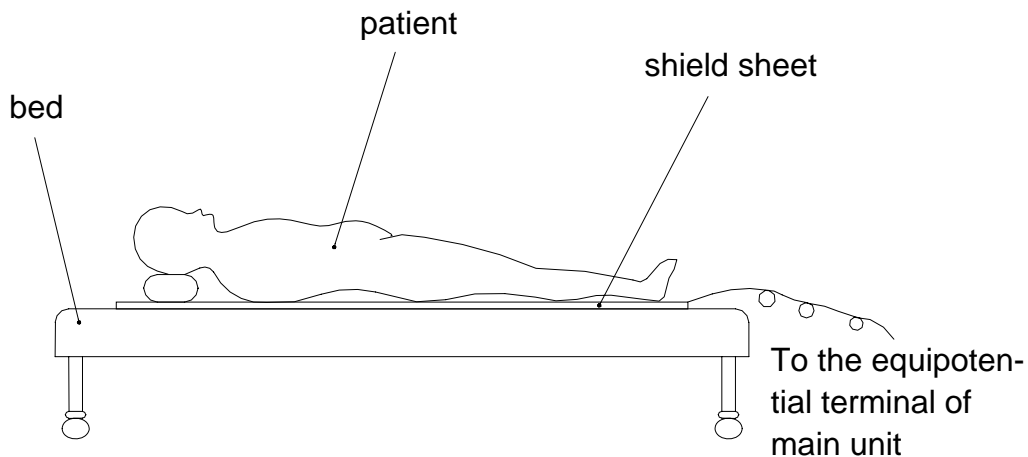

Fig.1-1 Lay a shield sheet to eliminate the hum (AC noise) interference
- l) During examination, in case images are interfered by an AC noise (hum-hum) due to the patient, put a shield sheet between the body and the bed as shown in Fig.1-1, and connect the sheet to the equipotential terminal of the main unit. The hum-hum interference noise can be eliminated.